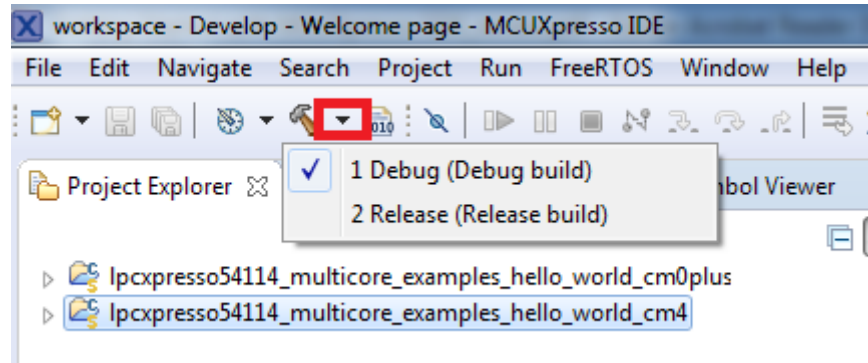

Figure 15. Selection of the build target in MCUXpresso IDE
3. Now, two projects should be imported into the workspace. To start building the multicore application, highlight the `lpcxpresso54114_multicore_examples_hello_world_cm4` project (multicore master project) in the Project Explorer. Then choose the appropriate build target, **Debug** or **Release**, by clicking the downward facing arrow next to the hammer icon, as shown in Figure 15. For this example, select **Debug**.